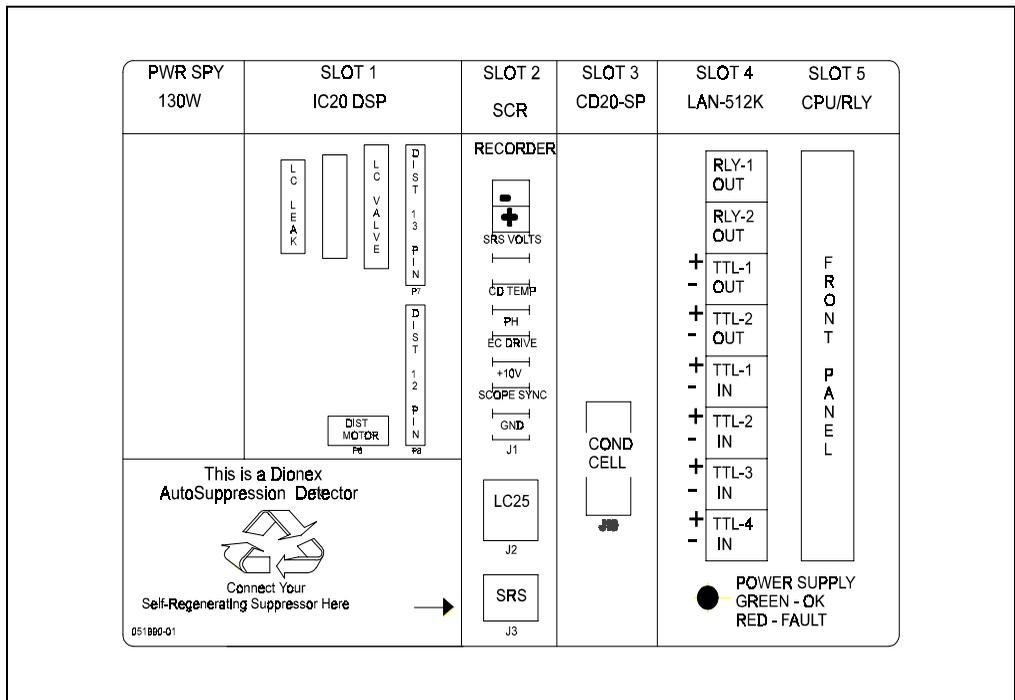

Figure B-3. IC20 Electronics Chassis
2. Remove any TTL/Relay plugs from the connectors at slot 4 in the IC20 electronics chassis (see Figure B-3).